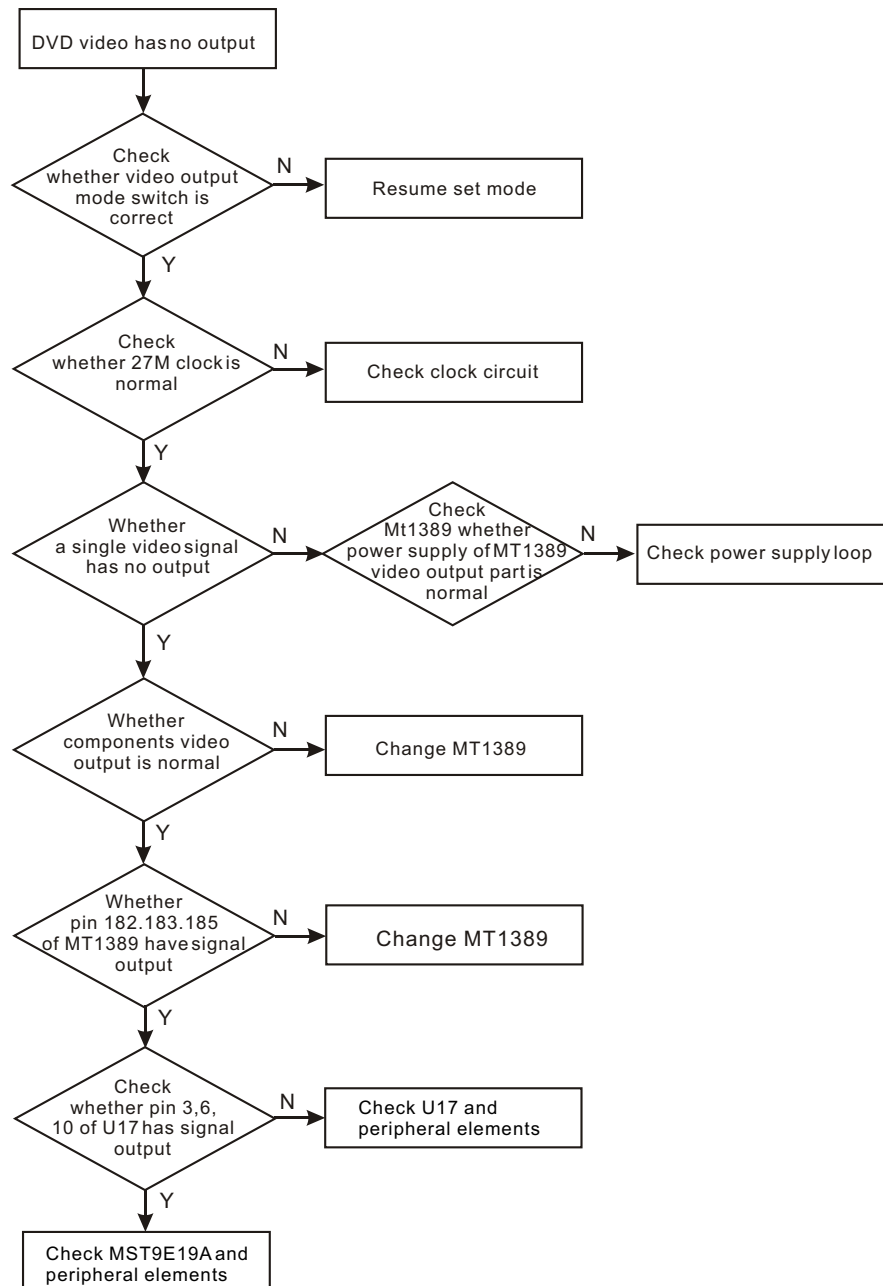

Figure 3.2.3.1 Troubleshooting flow chart for “DVD has no video output”
3. Troubleshooting process for “DVD has no video output” is shown in the figure 3.2.3.1: